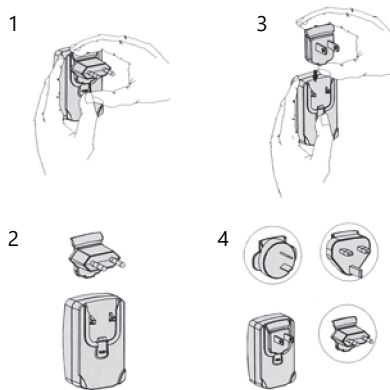

Fig. 4 AC Power Adapter
1. Press the SNT-505 [PUSH] key (see Fig. 4).